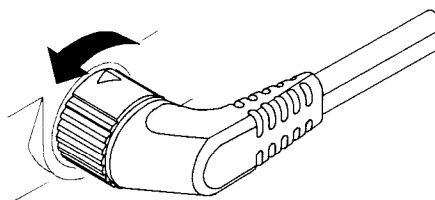

Figure 2-9 Disconnecting the Therapy Cable
- 1 Rotate the locking ring on the therapy cable in the direction of the arrow (counterclockwise) until it stops (see Figure 2-9).